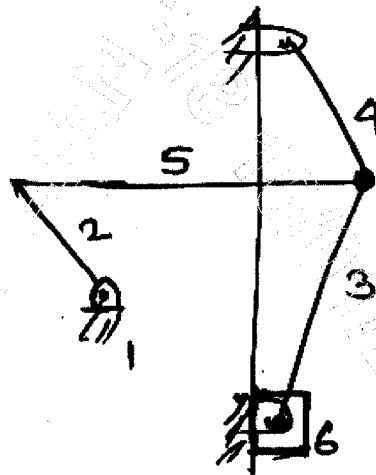

Fig.Q1(b)
- b. Calculate mobility of mechanism as shown in Fig.Q1(b). (03 Marks)